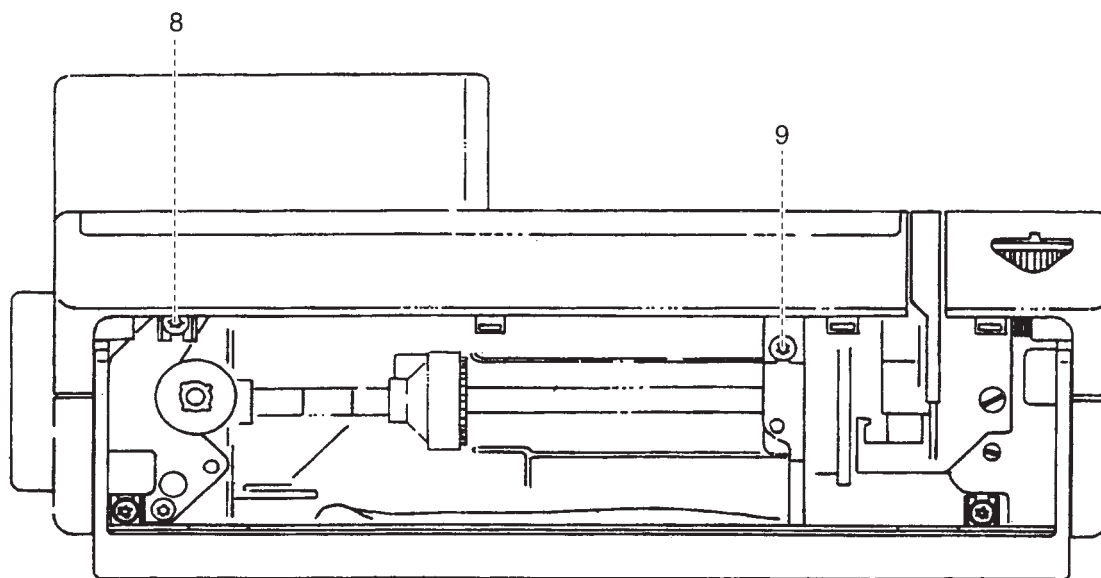

Fig. 5
- Loosen the snap connections by pressing with your thumb on the spots marked with arrows on the inner surface of the arm (fig. 5).
- Loosen the fastening screws 8, 9, and 10 of the front housing shell (fig. 5 and 6).